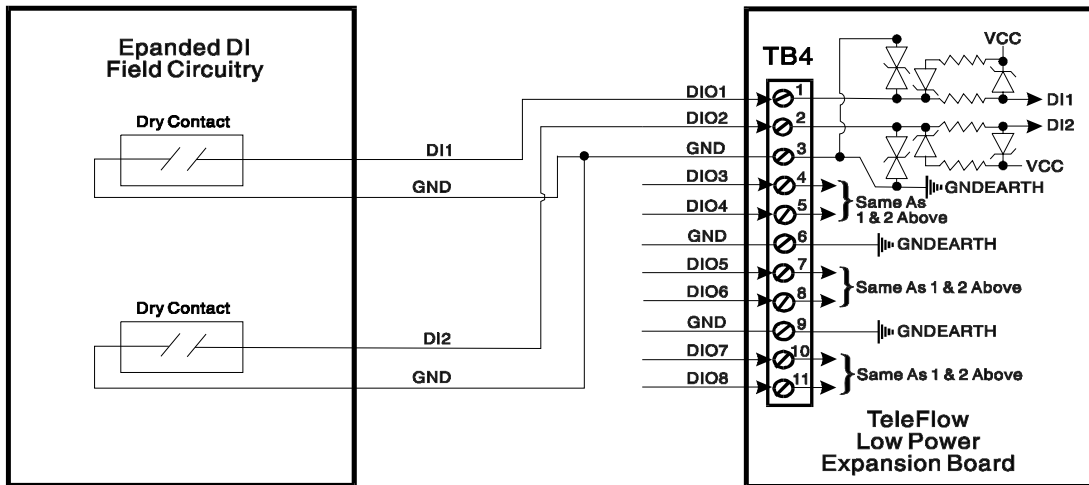

Figure 4 - LPI/OEB Discrete Input Configuration
2.2.1 LPI/OEB Discrete Input Wiring (TB4) (see Figure 4 and Table 4)